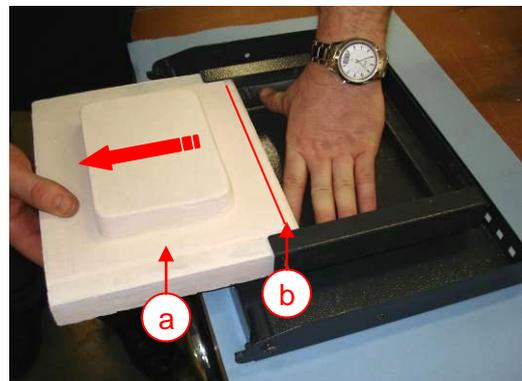

Fig. 8 - remove firebrick
- Pull the firebrick out of the door housing carefully. (Fig. 8 a).
- Install the new firebrick in reverse order. Take care that the cutout of the firebrick (Fig. 8 b) is located at the upper end of the door.